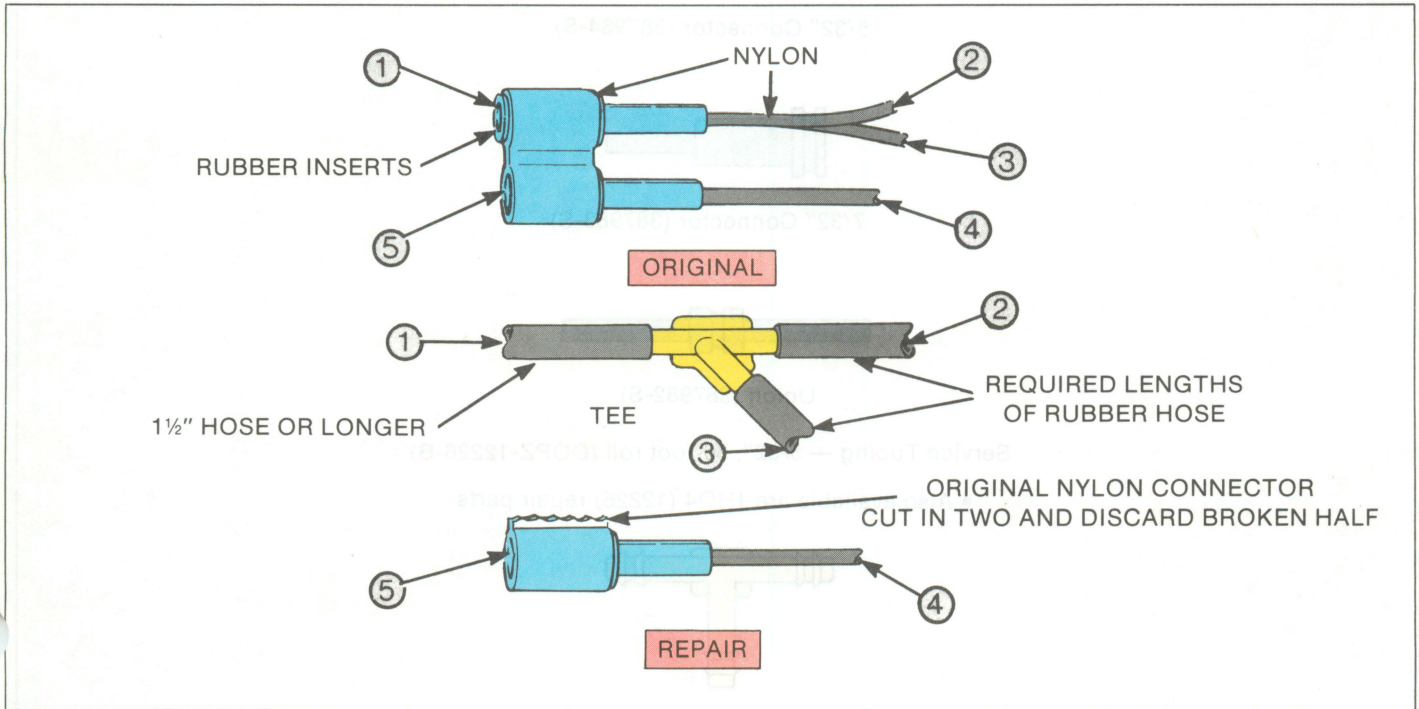

Figure 109 — Damaged Nylon Connector Repair
3. If only part of a nylon connector is damaged or broken . . . cut the connector apart (as illustrated in Figure 109) and discard the damaged half of the harness. Replace it with rubber vacuum hoses and a tee from service stock.